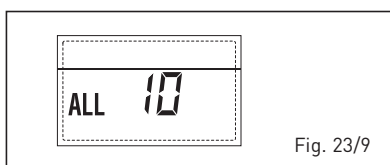

Fig. 23/9
– **INTERVENÇÃO SONDA FUMOS “ALL 13” (fig. 23/10)**